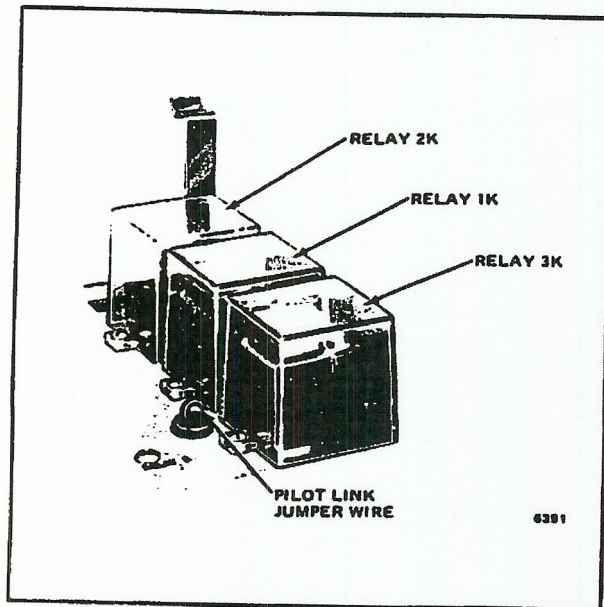

FIG. 11—PILOT LINK JUMPER WIRE.
### INSTALLING THE R4138 (FIGS. 11, 12 AND 13)
1. If you are using the R4138 in a continuous (standing) pilot application, clip the pilot link jumper wire (Fig. 11). It must be clipped so that the system can start while the pilot flame is being detected.
2. If you are using the R4138 in a redundant parallel system, clip the pilot link jumper wire (Fig. 11). In a redundant parallel system, either of the R4138's may be removed while the system is running. If it is replaced while the burner is firing, the R4138 cannot start because the detector is sensing flame (safe start check). Clipping the pilot link jumper wire will allow the R4138 to start. If using a C7012E or F Purple Peeper Ultraviolet Flame Detector or a rectifying flame rod with an R7247 Dynamic Self Check Amplifier, all electronic components in the flame detection system will be tested in the first checking cycle.